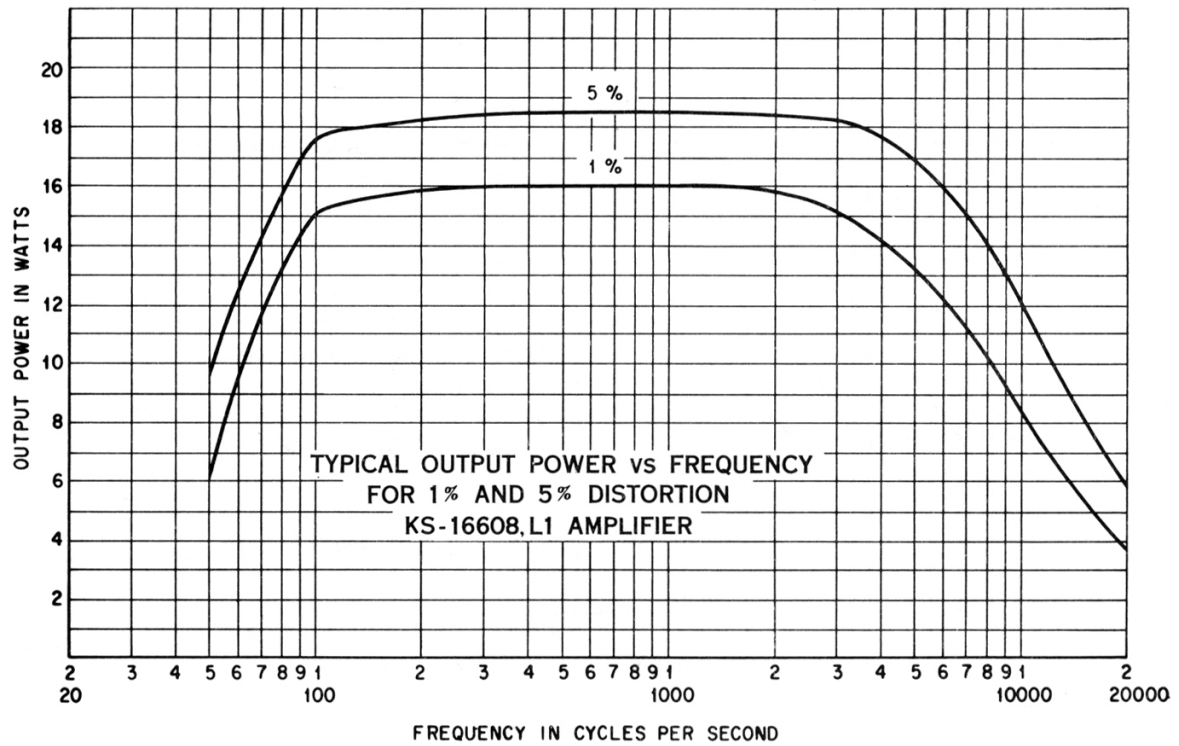

Fig. 6 – Output Power vs Frequency
**6.03** Fig. 6 shows the power output characteristics of the amplifier for 1% and 5% distortion. The curves shown are typical for all the output impedances.